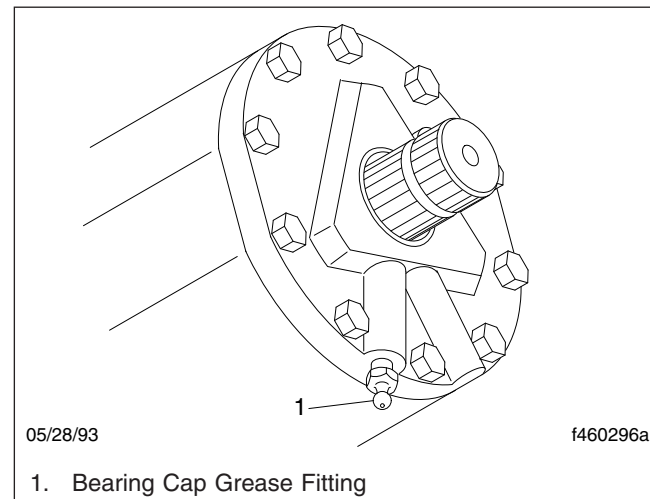

Fig. 1, Sheppard Bearing Cap Lubrication
1. Wipe off debris from the bearing cap grease fitting. See Fig. 1.